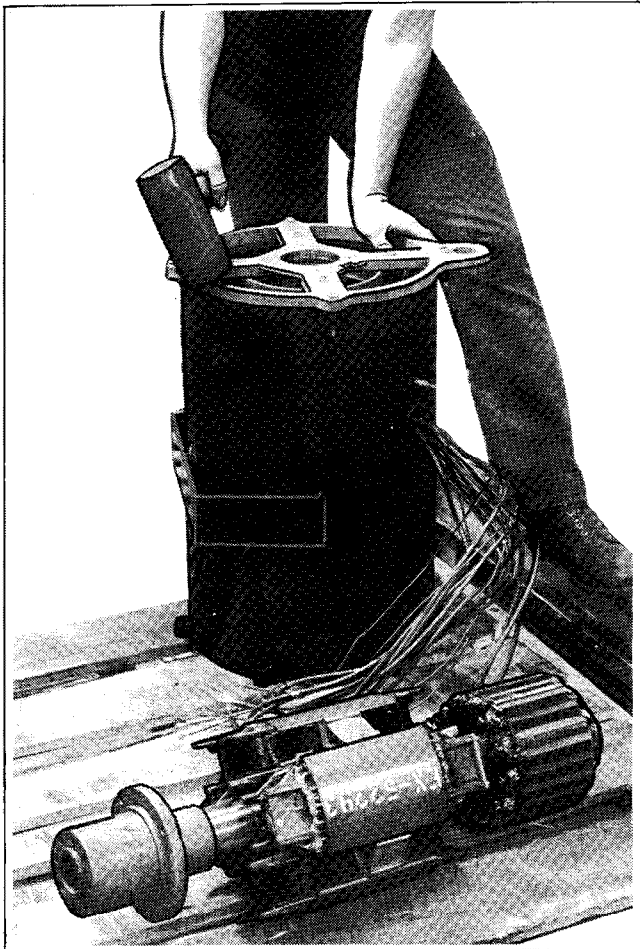

Figure 6-8. Mounting End Bracket on Stator
3. Place end bracket on stator; use bolts to align holes. Use a rubber mallet to mount end bracket flush with stator. See Figure 6-8.